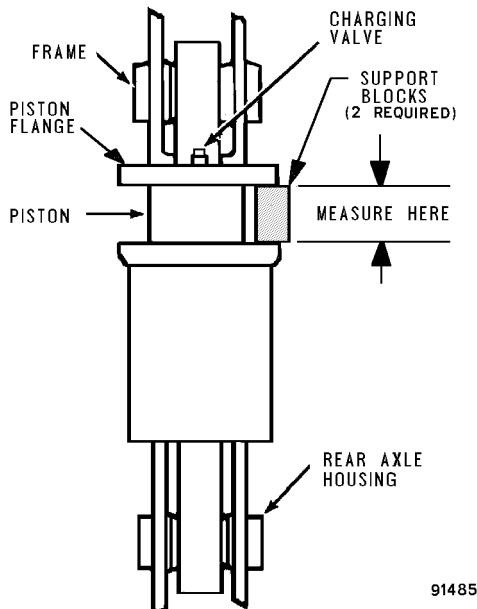

FIGURE 4-4. REAR SUSPENSION
1. With nitrogen charging support blocks at hand (see Figure 4-4), proceed as follows:
3. Install HYDRAIR® Charging Kit and bottle of pure dry nitrogen. Following previous instructions, charge the suspensions with nitrogen gas to the pressure shown in Figure 4-4 for the truck being serviced. **DO NOT** use an overcharge of nitrogen gas to lift the suspension off the blocks.